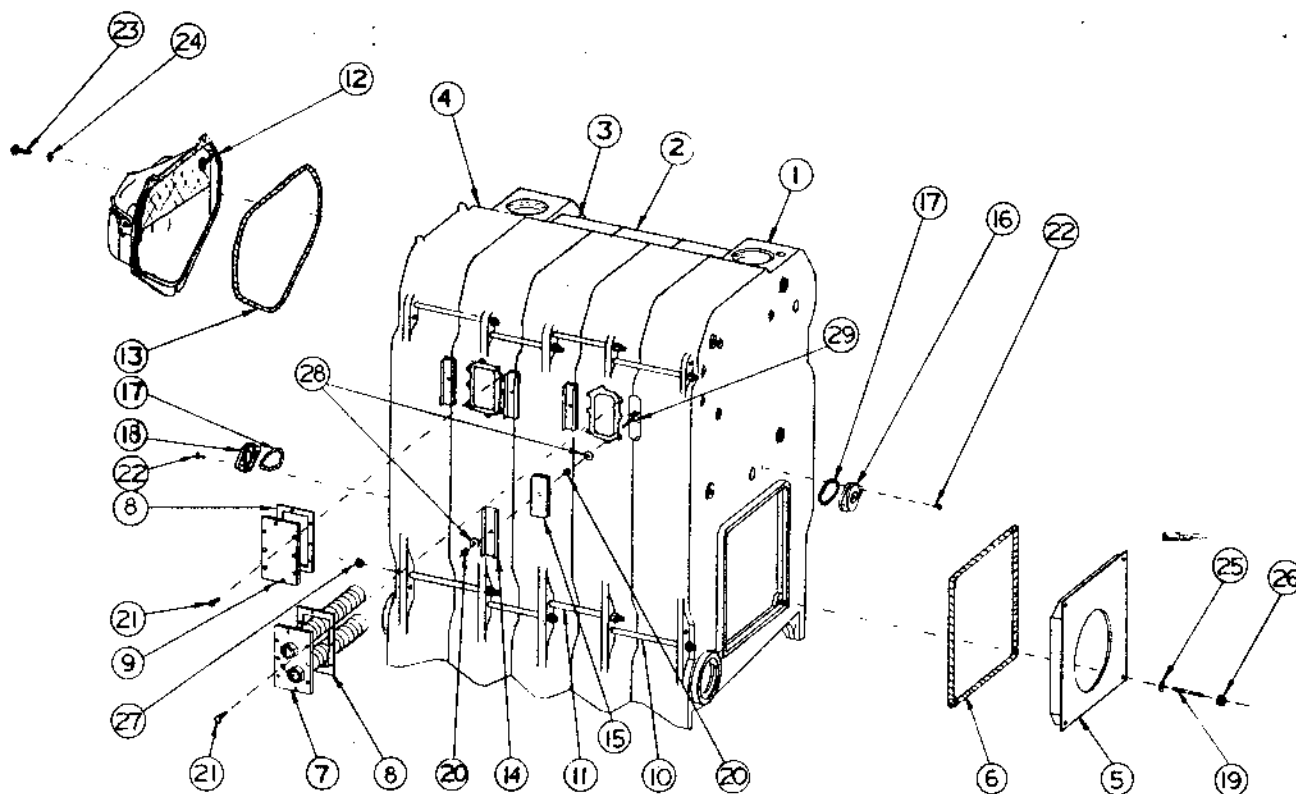

FIGURE 5
9. Four $\frac{1}{2}$ " x $3\frac{1}{2}$ " studs are provided to secure the burner mounting plate to the front section (see FIGURE 5).
10. Make a small continuous bead of sealing rope adhesive in the groove around the burner mounting plate opening in the front section (see FIGURE 5). Position the $\frac{1}{2}$ " diameter by 76" long rope in the groove making sure the ends overlap at least 1" and install the burner mounting plate using the $\frac{1}{2}$ " washers and nuts provided. Make sure burner plate is installed properly with the part number and the word "up" positioned at the top.
11. Make a small continuous bead of sealing rope adhesive in the bottom of the sealing groove located around the flange of the front observation port assembly. Position the $\frac{3}{8}$ " diameter by 12" long sealing rope in the sealing groove making sure the ends overlap at least 1". Install the front observation port assembly to the front section using the number 10- $\frac{3}{4}$ " truss head screws provided (see FIGURE 5).
13. If the boiler was ordered with "TI" or "SI" intermediate section(s), install the indirect water heater(s) and gasket(s) or heater opening cover plate(s) and gasket(s) using $\frac{3}{8}$ " x $\frac{3}{4}$ " hex head screws and washers provided (see FIGURE 5).
14. Place the 10 $\frac{1}{2}$ " x 17 $\frac{1}{8}$ " cerafelt blanket insulation pieces against the cleanout plates. Place a $\frac{1}{4}$ " x 1 $\frac{3}{4}$ " carriage bolt in the cleanout opening as shown in FIGURE 5. Place a washer and nut over the bolt to hold it in place. Mount the cleanout plate over the opening and bolt the cleanout plate in position (see FIGURE 5).
17. Position the draft hood collar to fit over the flueway outlet on the back section. Secure the draft hood collar to the back section using the $\frac{1}{2}$ " x $1\frac{1}{2}$ " hex head cap screws and washers provided (see FIGURE 5).